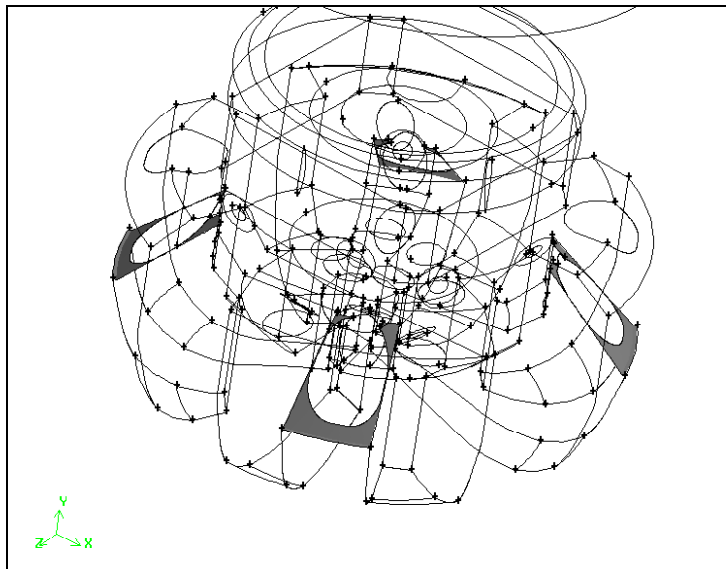

Figure 11-9: Faces on which to apply size functions
- c) In the **Faces** list box, select the four faces shown (shaded) in Figure 11-9.